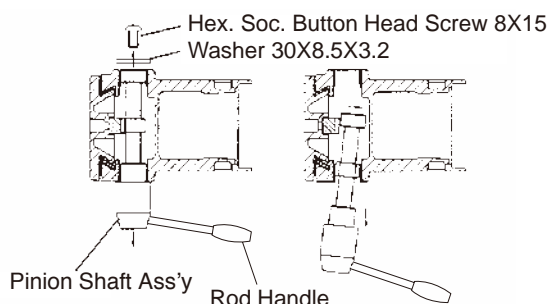

Fig. 14
- (1) Unscrew Hex. Soc. Button Head Screw 8x15 using Hex. Socket Screw Key 5 included in the accessories.
- (2) Pull out the Pinion Shaft Assy with Rod Handles as shown in the sketches in Fig. 14.